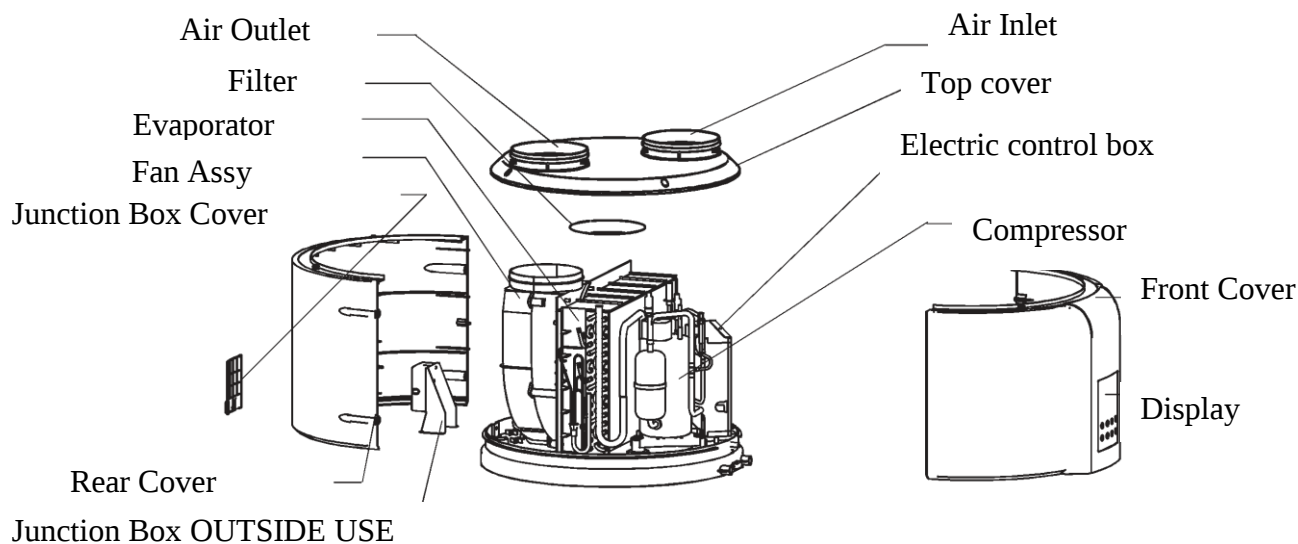

Figure 2.7.-1.
HB300(C) heat pump water heater is basically composed of an upper part (**Figure 2.7.-1.**) containing heat pump equipment and a lower part (**Figure 2.7.-2.**) containing the storage tank. The storage tank of the sanitary hot water- having a volume of – is covered by an enamel coating internally and by a thick polyurethane insulation layer having large efficiency externally, and the latter is covered by plastic surface of the appliance. The pipe radiator, controlling indicator anode electrics and magnesium indicator anode located on the closing cover are placed on a horizontal axle common with the closing cover.
The following parts are placed under an easily accessible and adequately insulated plastic coverage: compressor, thermostatic expansion valve, evaporator, fan ensuring adequate air flow and all the other parts displayed on Figure 2.7.-1.